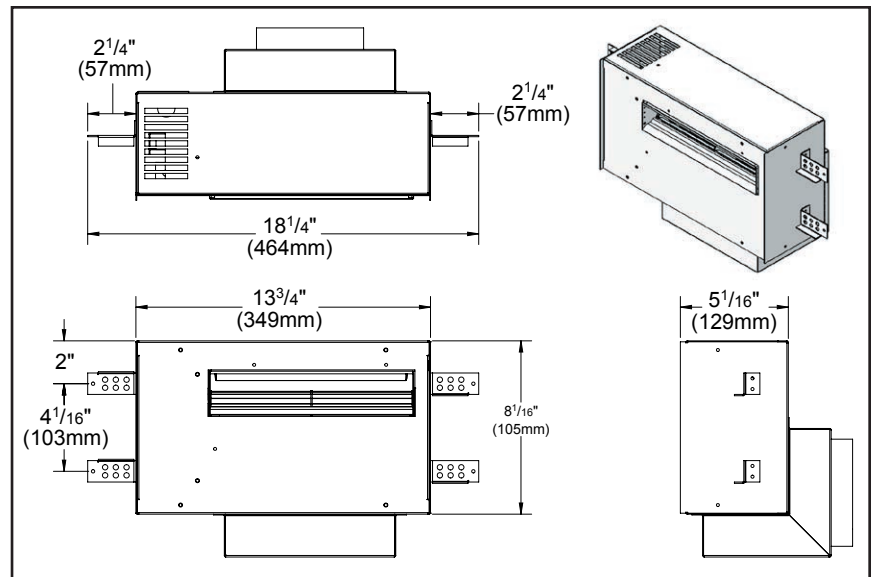
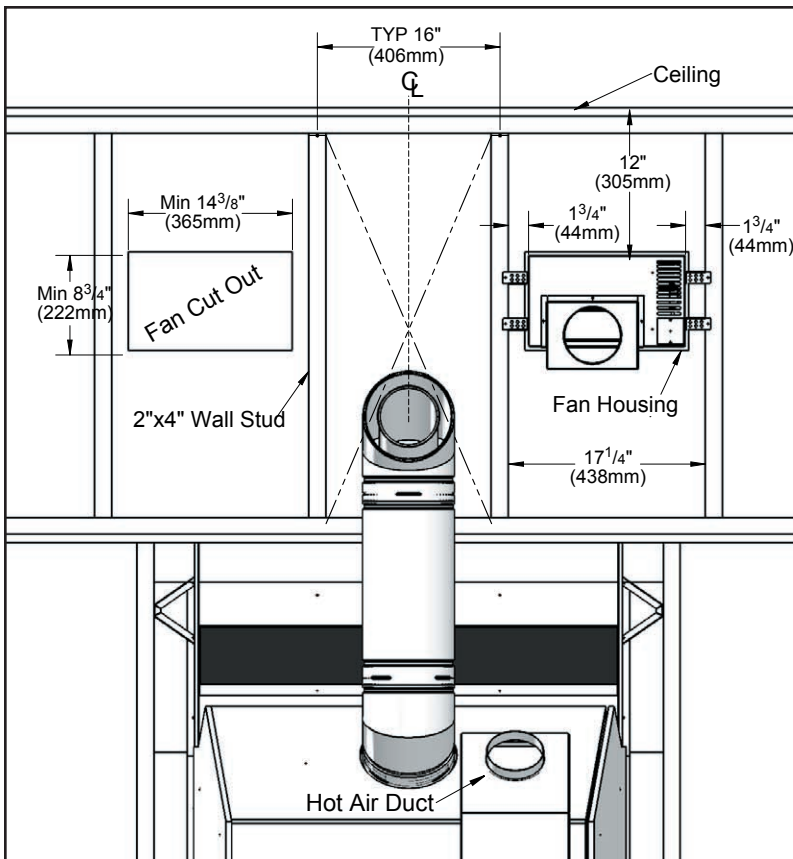

Figure 5: Fan housing overall dimensions.
Figure 6: Minimum Installation Clearances for Fan.
4. With the "FIGURE 5: FAN HOUSING OVERALL DIMENSIONS." and "FIGURE 6: MINIMUM INSTALLATION CLEARANCES FOR FAN." Cut a opening for the fan in the wall board; minimum 14 3/8" by 8 3/8". It cannot be less than 12" from the ceiling and 1 3/4" between fan housing to the closest stud or combustible materials. Do not install in front of the vent.